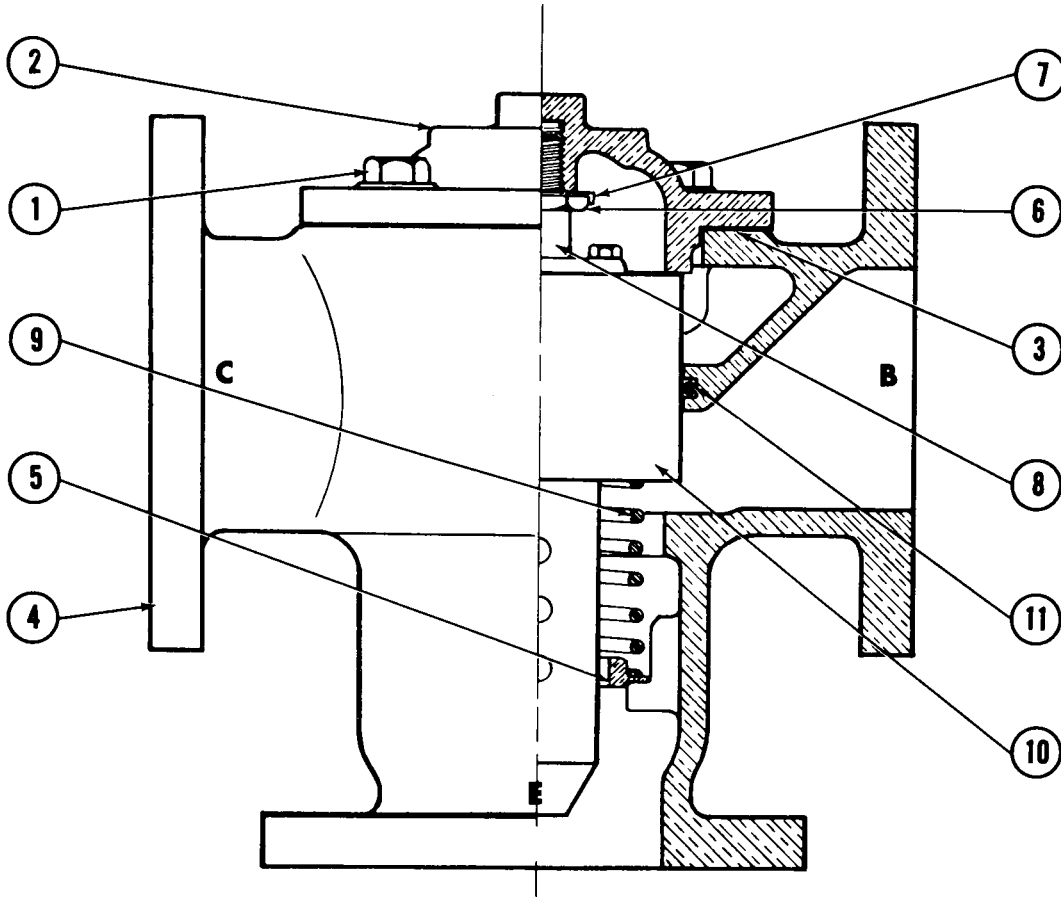

Figure 4
4. Reassemble as shown in Figures 4 through 9, depending on valve size.